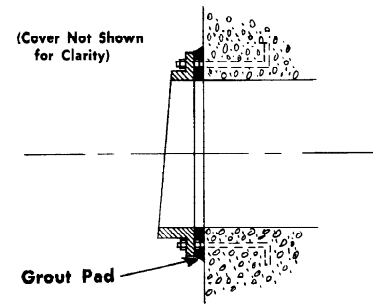

Figure 34
2. Each bolt has been provided with two nuts to facilitate proper mounting of the gate. In setting the forms, sufficient grout space must be left for adjustment of the back nut as shown in Figure 34.
3. After concrete has been poured and the forms have been stripped, place one nut on each anchor bolt then slip gate into place over anchors. (Again we must reiterate, DO NOT FORCE GATE ONTO MISALIGNED BOLTS, See Figure 34.) Place the second nut on each bolt and bring both front and back nuts into finger-tight contact with gate frame, aligning it as necessary. Make sure gate seats and joints are clean. At this point, check for excess clearance between seating surfaces with .004" feeler gauge. In the event